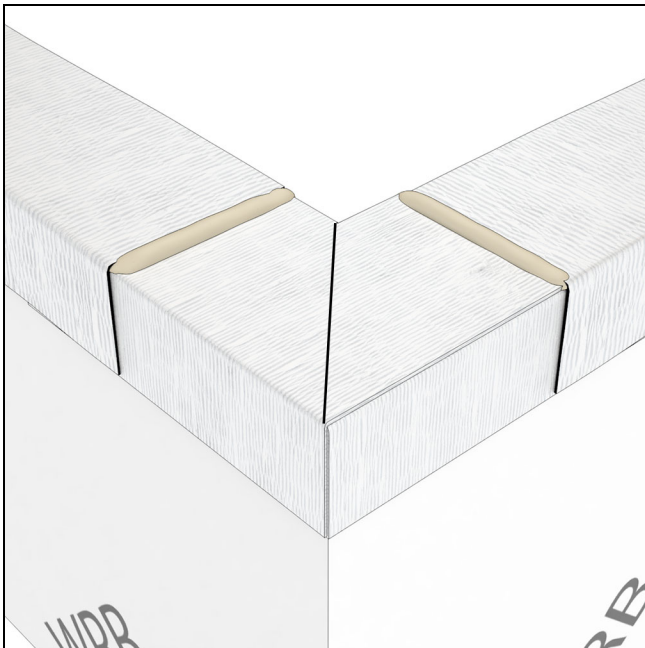

Figure 29
15. Apply sealant at the seam between the corner flashing and the flashing at the legs. See Figure 29.